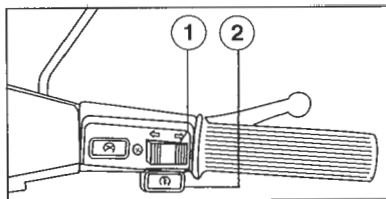

Fig. 5
*Stella* has an auto push button start located just below the turn signal light switch (fig.5), as well as an optional kick-start. The auto start circuit is operated by a 12 volt-9Ah battery.